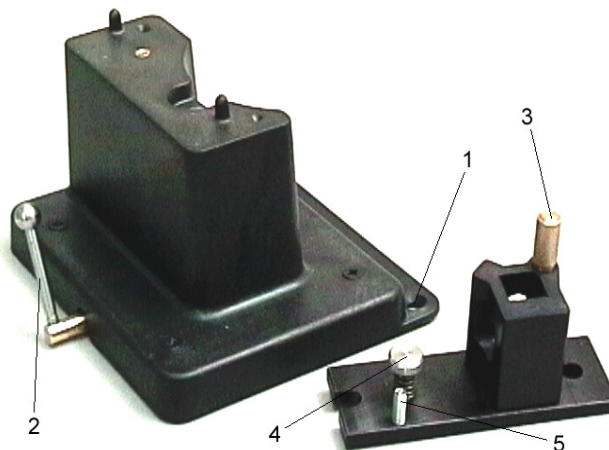

Figure 2. Cell holder base (left) and Single cell holder
- 3 Lock the cell base by turning the lever ('2' in Figure 2) to the right.
- 6 Using the 2.5 millimeter hexagonal ball driver, adjust the pitch adjustment screw ('5' in Figure 2) and note the intensity of the light striking the paper. Continue to adjust the adjustment screw until the beam hitting the paper appears the most intense.